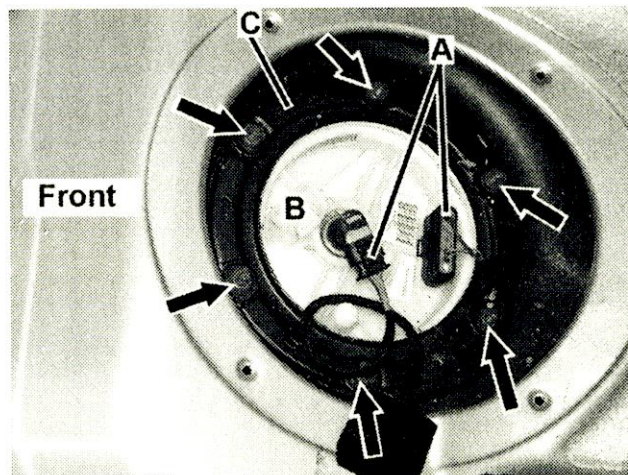

Figure 2
1. Disconnect harness connectors (A, Figure 2) from fuel filter (B)
2. Remove paint from fuel tank studs by running a 6 mm x 1 die over the studs (arrow, Figure 2) if required.
3. Remove nuts (arrows, Figure 2) securing locking ring (C) to fuel filter (B) then remove locking ring (C).